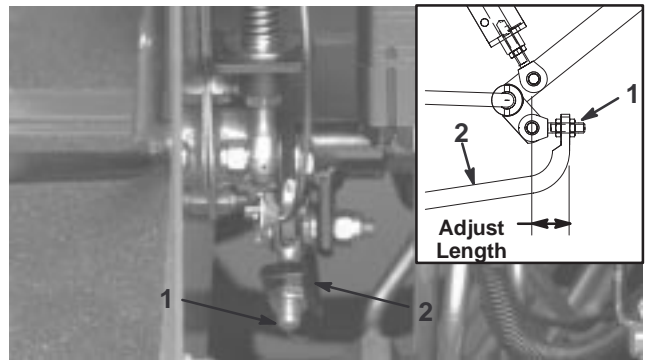

Figure 45
4. Adjust jam nuts on pump rod end to move pump control tube forward to eliminate forward creep or rearward to eliminate rearward creep (Fig. 45).